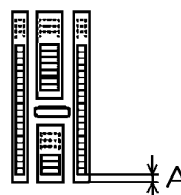

Fig.3
2. When the feed dog is brought to the highest position (= upper dead point of needle bar) by rotating the handwheel, measure the fore and aft position (A) of feed dog.(Fig. 3)
A = 1.0 ± 0.5 mm (Fig.3)